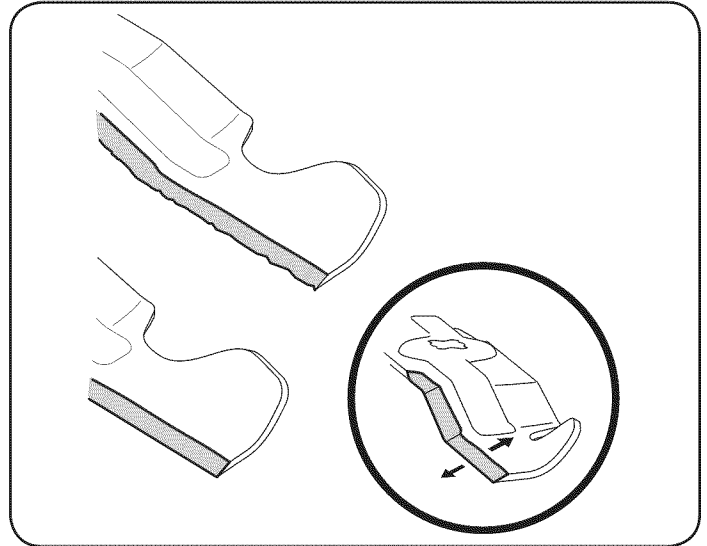

Figure 24
4. To properly sharpen the cutting blades, remove equal amounts of metal from both ends of the blades along the cutting edges, parallel to the trailing edge, at a 25°- to 30° angle. Always grind each cutting blade edge equally to maintain proper blade balance. See Fig. 24.